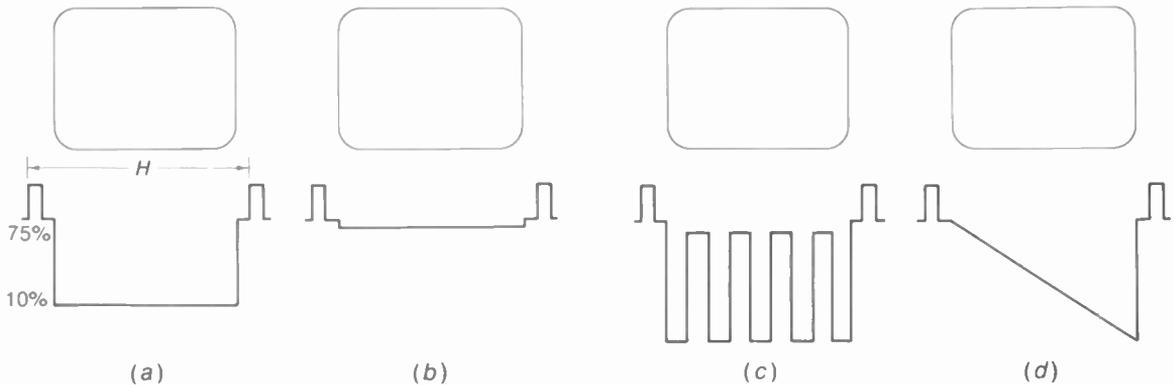

FIGURE 5-21 FOR PROBLEM 6.
6. Show the pictures corresponding to the video signals in Fig. 5-21. Assume that all the lines of video signal are the same as the one shown.